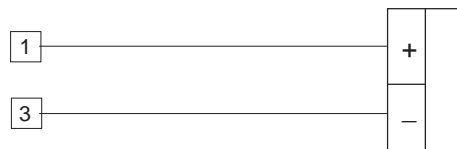

Fig. 5.5
- a) Provide connections between calibrator and instrument under test as shown in Fig. 5.5.
- a) Set the calibrator to 60.000 mV (see Fig. 5.5).